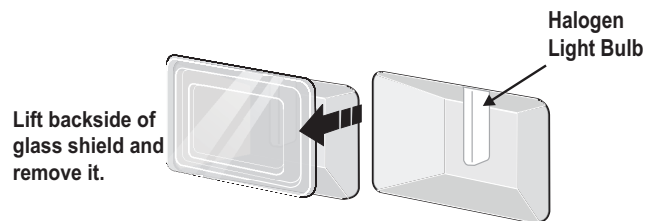

Figure 39: Light shield and bulb
2. To remove the glass shield, pull the back side of the shield toward the inside of the oven in a manner to lift it up from the oven side. The glass shield should come out easily by pushing a little toward front of the wall oven (Figure 39).